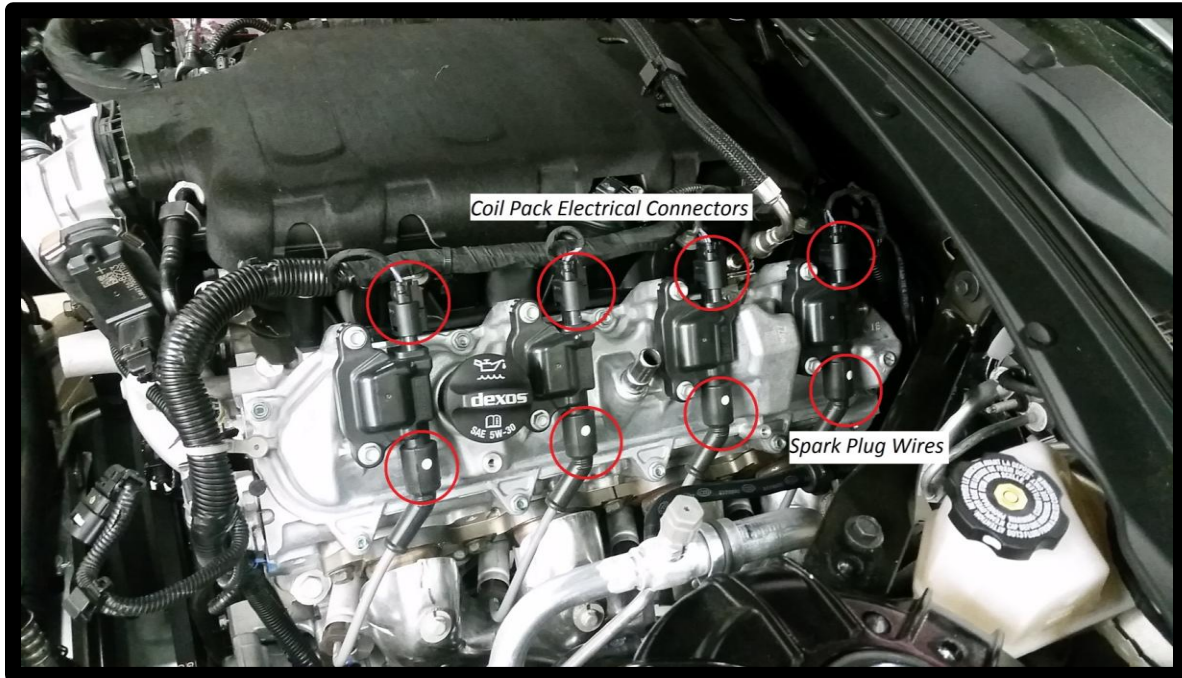

Figure 23: Electrical Connectors and Spark Plug Wires (Driver Side Shown)
27. Disconnect the electrical connectors and spark plug wires on all 8 coil packs, See Figure 23.